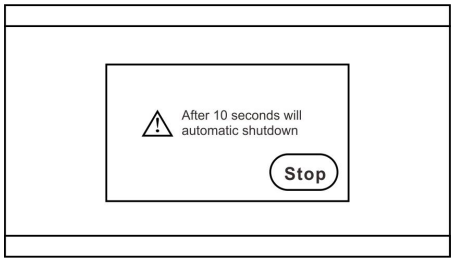

Figure7 Automatic shutdown interface
6.1.2. Power off. When the meter is on the state of power on, press the power button to power off. When the meter power up and without any operation for 15 minutes, a page as shown in Figure 7 will pop up, prompting that the meter will be shut down, click stop key, and the normal operation will resume.